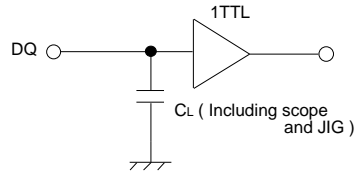

Fig.1 Output load
(1) MEASUREMENT CONDITIONS
- Output loads Fig.1, $C_L = 30\text{pF}$